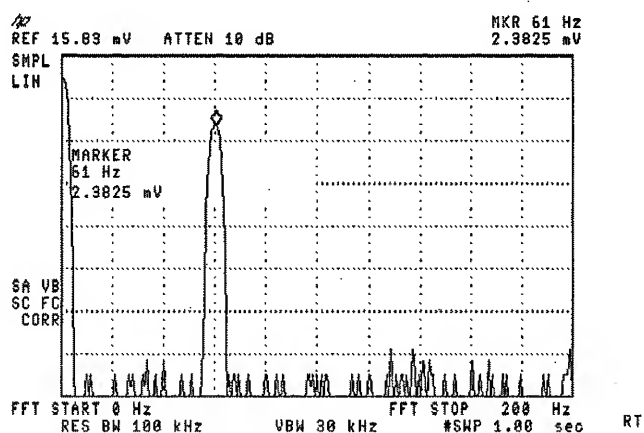

Figure 4-1. FFT Annotation
11. Press **(MEAS/USER)** and **% AM ON OFF** so that ON is underlined. The spectrum analyzer reads out the percent AM of the largest modulation frequency. An arrow indicates the signal being measured. See Figure 4-1. This measurement does not include all of the harmonics of the modulating signal.
7. Press **[MEAS/USER]** and **% AM ON OFF** so that ON is underlined. The spectrum analyzer reads out the percent AM of the largest modulation frequency. An arrow indicates the signal being measured. See Figure 4-1. This measurement does not include all of the harmonics of the modulating signal.